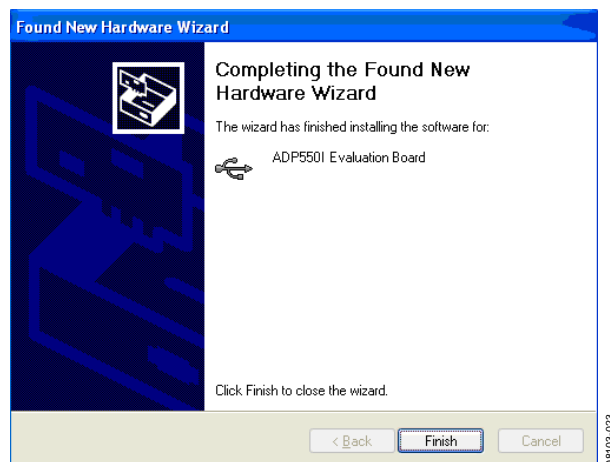

Figure 23. Completion
5. When the message box shown in Figure 23 appears, click **Finish** to complete the driver installation.